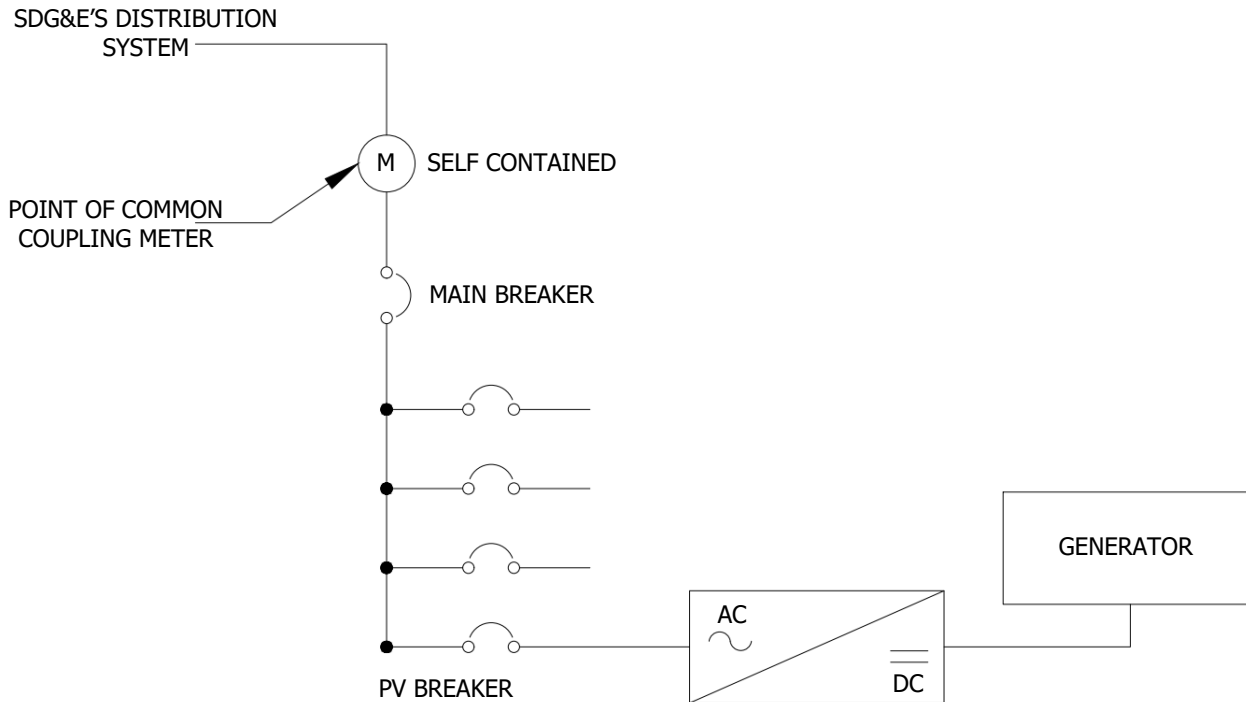

FIGURE 1
- e. CUSTOMERS SHALL INSTALL PLAQUES AT ALL AC DISCONNECTS CLEARLY STATING THEIR PURPOSE IS FOR OPERATION BY THE UTILITY OR AUTHORIZED EMERGENCY RESPONDERS. REFER TO THE FOLLOWING FIGURES 1 – 3 AND NOTES.